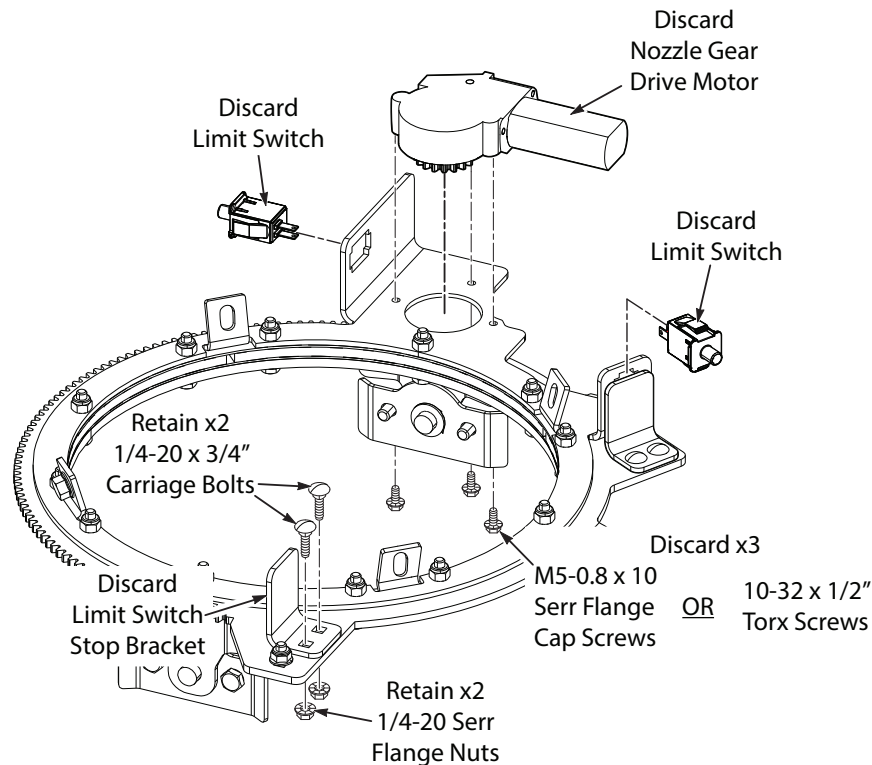

Figure 1. Remove Nozzle Gear Drive Motor & Associated Components
5. Remove and discard the nozzle gear drive motor and three (3) M5-0.8 x 10 serrated flange cap screws or 10-32 x 1/2" torx screws used to secure the motor to the pivot gear top plate. See Figure 1.
6. Remove and discard the two (2) plunger limit switches attached to the pivot gear top plate. See Figure 1.
7. Remove and discard the limit switch stop bracket identified in Figure 1. Be sure to retain two (2) 1/4-20 x 3/4" carriage bolts and two (2) 1/4-20 serrated flange nuts used to secure the stop bracket to the nozzle pivot gear. This hardware will be reused when installing the new limit switch stop bracket included with this kit in step number 12. See Figure 1.